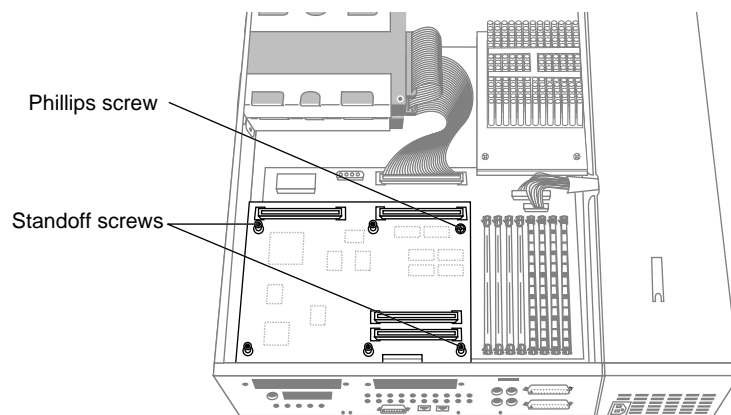

Figure 18 Inserting the screws on the graphics board
5. Insert the two standoff screws that you removed earlier on the graphics board, as shown in Figure 18. Use the open-ended wrench to tighten them. As you tighten the screws, alternate between them so that the board is connected evenly.